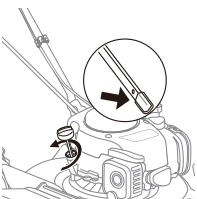

Fig.4
2. Remove oil dipstick from oil fill spout.(Fig.4)
4. Wait one minute to allow oil to settle. Insert and tighten dipstick, then remove it to check oil level.(Fig.4)